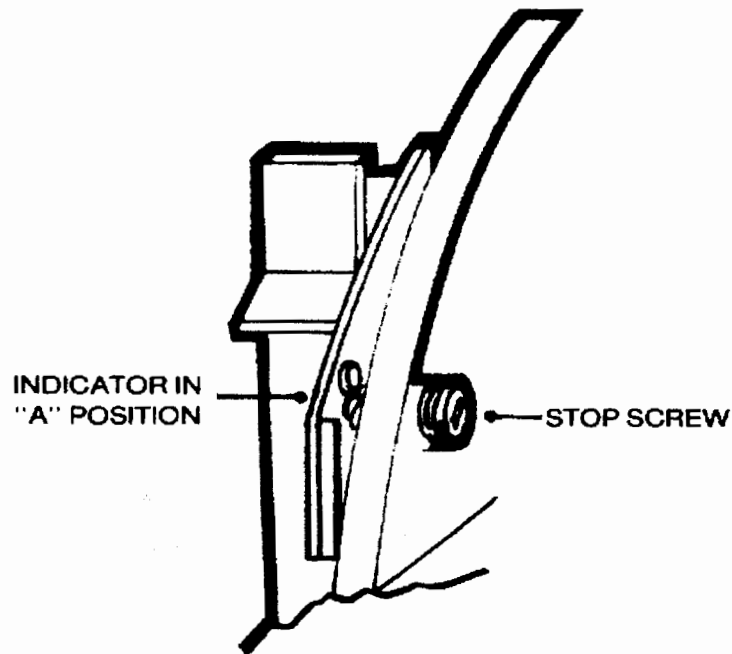

Figure 5-1. Paper Thickness Lever (In "A" Position)
- c. Loosen the stop screw located on the right side of the paper thickness adjusting lever and move the lever into the "A" (adjust) position (see Figure 5-1).